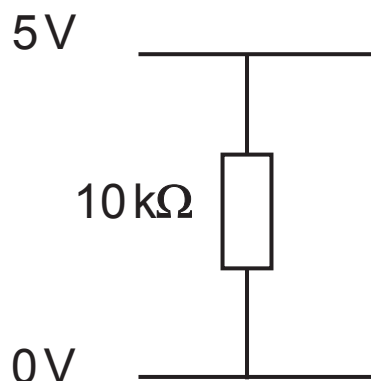
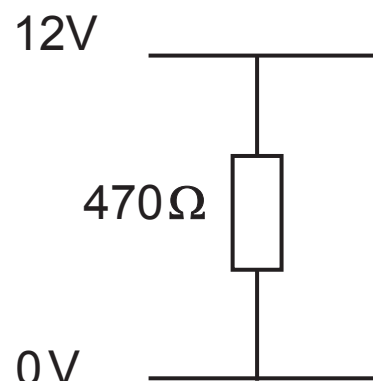

Fig. 1
Fig. 2
- (ii) Use Ohm's Law to calculate the current which goes through the resistor shown in **Fig. 1** and the resistor shown in **Fig. 2**. [2 marks for each current]
Current Fig. 1 _____
Current Fig. 2 _____